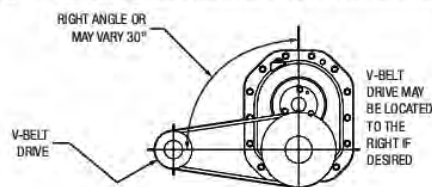

Figure 3 - Angle of V-Drive
- If a Dodge Torque-Arm II motor mount is not being used, install motor and V-belt drive so belt will approximately be at right angles to the center line between driven and input shaft (Figure 3).